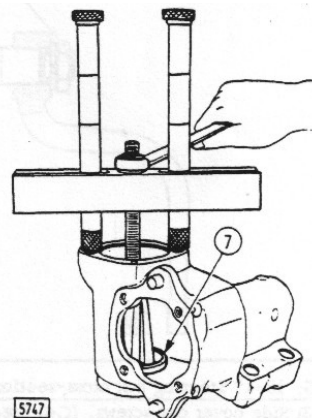

FIG. 12-15 Removing cup of lower tapered roller bearing (7) with puller.
Remove cup of the lower bearing (7) using appropriate puller (Fig. 12-15) and recover shims.